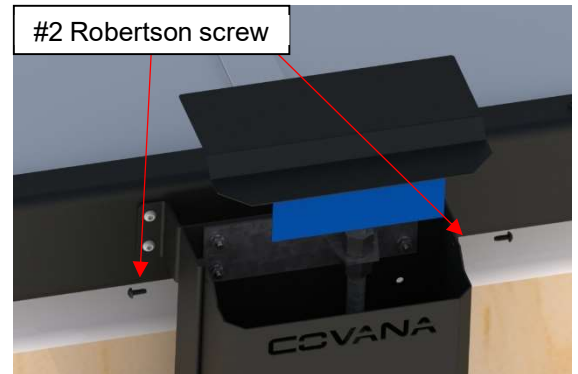

Figure 17
- 2) Remove the 2 #2 Robertson screws on the top plate of each post. (Figure 17) Place top plates in a safe place.